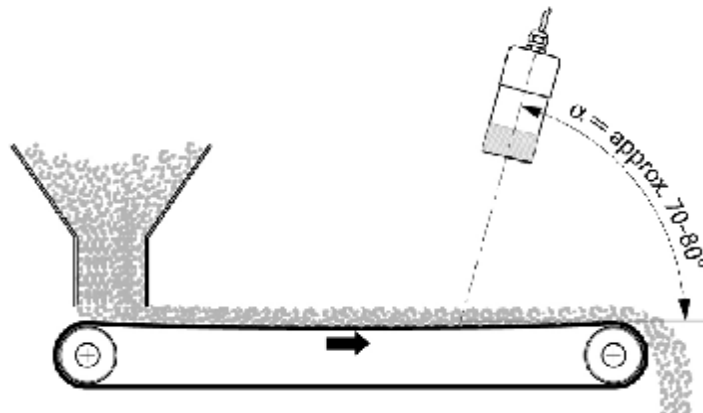

Fig. 7: Installation above conveyor belt
If FlowJam S is installed directly above a conveyor belt or if the bulk material to be detected does not show much profile, the sensor should be mounted at an angle of approx. 70 - 80° (fig. 7).
- properties of the material flow (see e.g. fig. 7)